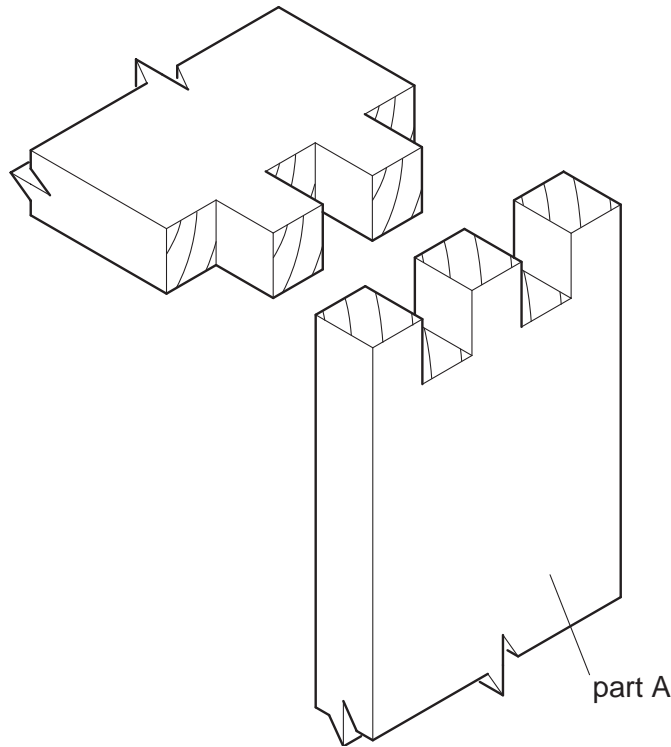

Fig. 7
- 9 Fig. 7 shows a joint used in box construction.